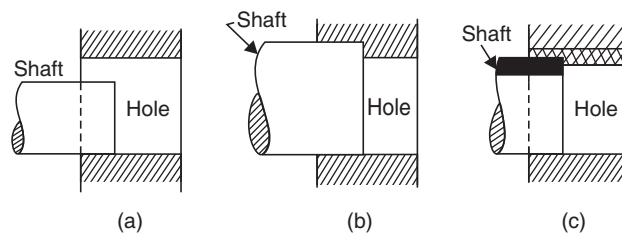

FIGURE 10.8
75. Figure 10.8 shows the different types of fits. Fig. 10.8 (a), represents
76. Figure 10.8 (b) represents
77. Figure 10.8 (c) represents